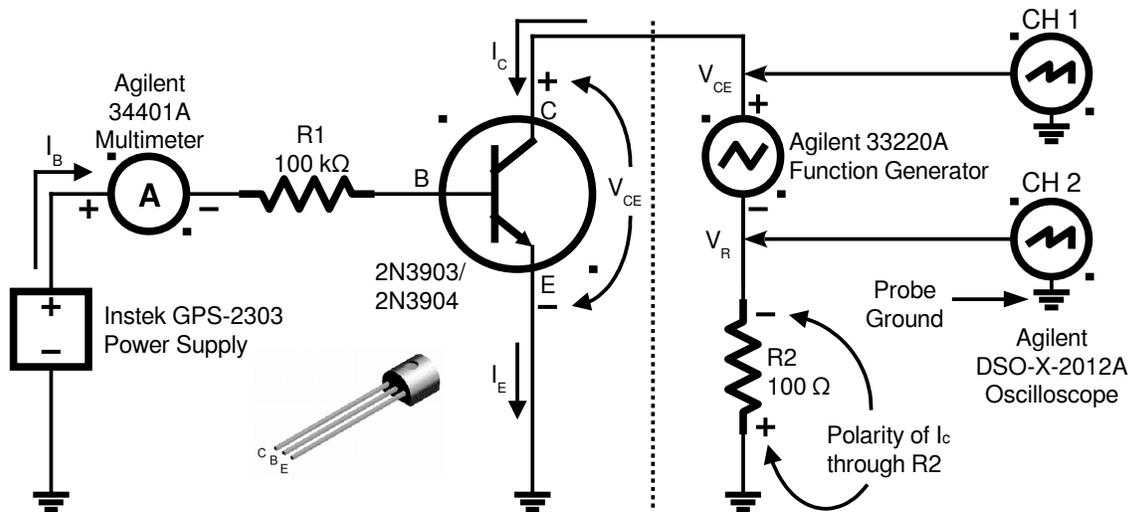

Figure 1. Oscilloscope Curve Tracer Schematic for NPN transistor
Normally an oscilloscope gives us a picture of voltage vs. time. It can also create a graph of voltage versus voltage using the X-Y mode. Using the circuit shown in figure 1 and the oscilloscope in XY mode, we can produce a current versus voltage graph on the screen. By capturing different graphs for different base currents (aka a family of curves), we can produce a display that looks like one from a curve tracer,
The Beta of a bipolar junction transistor is the ratio of the collector current to the base current. In the circuit in figure 1, there are two loops of current. The base loop (I_B) is a DC current sourced by the power supply and its value is measured by the multimeter. The collector loop (I_C) is an AC current sourced by the function generator. Its value is determined by measuring the voltage across R2 then calculating the current.
1. Construct the base-emitter loop portion of the circuit shown in Figure 1. This is the portion to the left of the dashed vertical line. Leave the collector open.
- Construct the collector-emitter loop portion of the circuit shown in Figure 1. This is the portion to the right of the dashed vertical line.